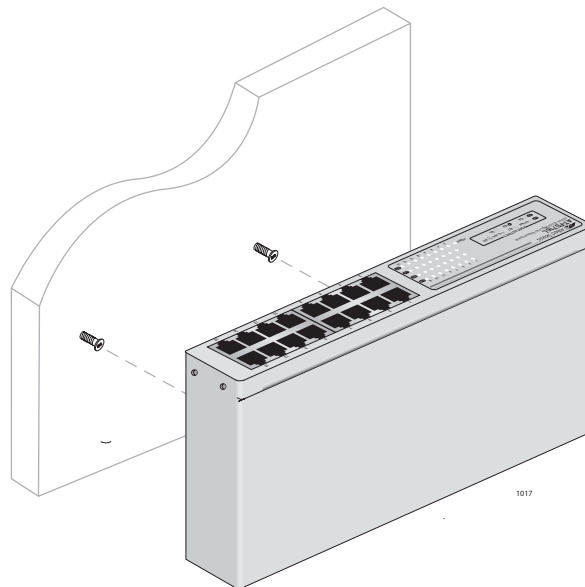

Figure 8. Aligning an AT-FS716L for Wallmount Installation
6. Align the switch horizontally, as illustrated in Figure 8..